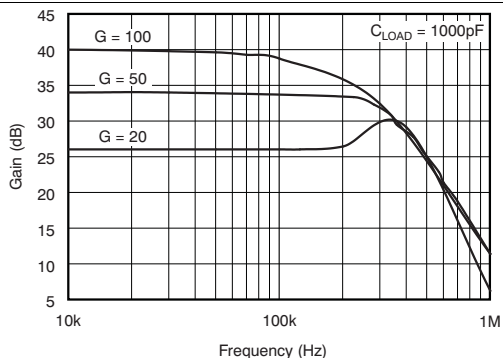

**Figure 1. Typical Comparator Hysteresis**
- (1) Hysteresis refers to the threshold (the threshold specification applies to a rising edge of a noninverting input) of a falling edge on the noninverting input of the comparator; refer to Figure 1.
- (2) Specified by design.
- (3)  $V_{ID}$  refers to the differential voltage at the comparator inputs.
- (4) Open-drain output can be pulled to the range of 2.7 to 18 V, regardless of  $V_S$ .
- (5) The comparator response time specified is the interval between the input step function and the instant when the output crosses 1.4 V.
- (6) The RESET input has an internal 2 M $\Omega$  (typical) pull-down. Leaving RESET open results in a LOW state, with transparent comparator operation.